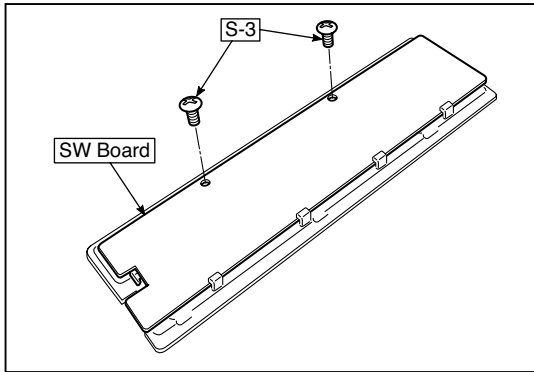

Fig.16
3. Remove the "S-3" screws shown in the figure 16 and then remove the SW Board.
1. Disconnect the CIS Cable (FFC), shown in the figure 16, from a connector.